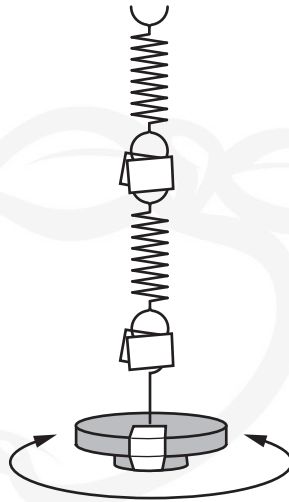

Fig. 2.3
- (ii) Rotate the mass hanger and mass through one turn and release them. The masses make rotational oscillations, as shown in Fig. 2.3.